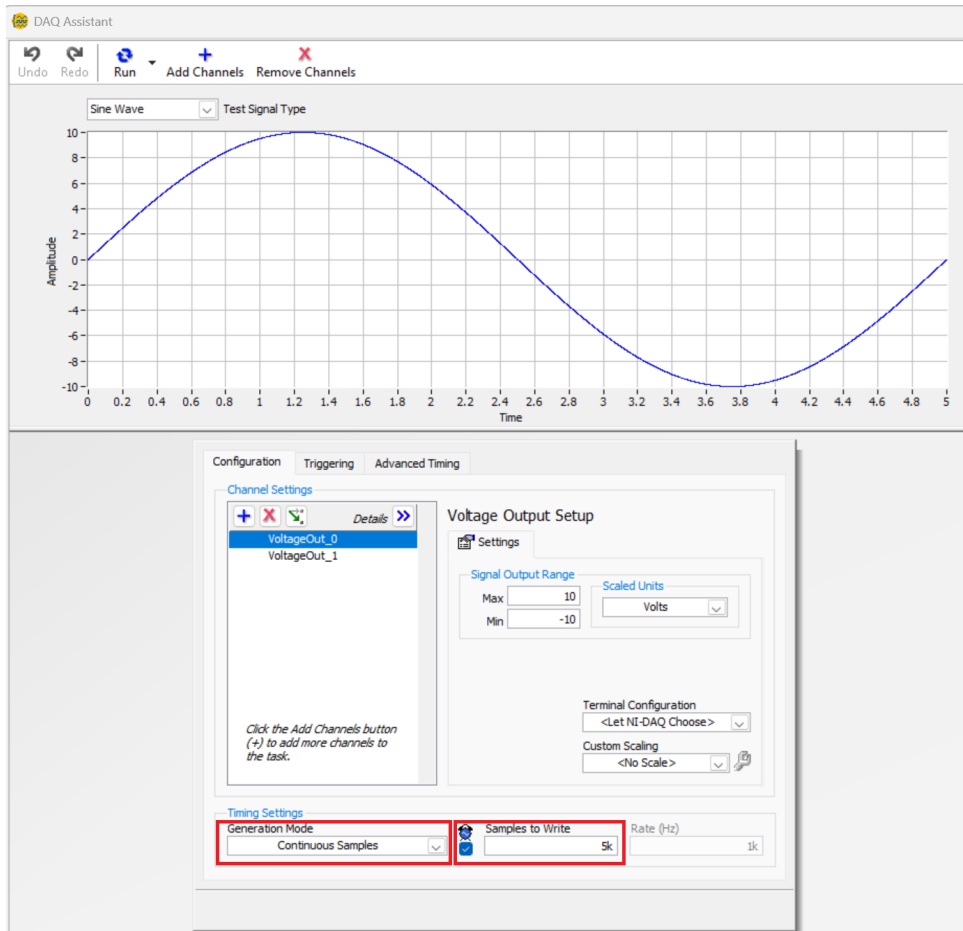

Figure 2: DAQ assistant setup
- When setting up the DAQ assistant select "continuous Samples" in Generation Mode and write the number of samples to write depending on your hardware capabilities. In the example shown in Figure 2., the samples to be written were set as 5K samples, since a NI-USB 6003 was used for this example.